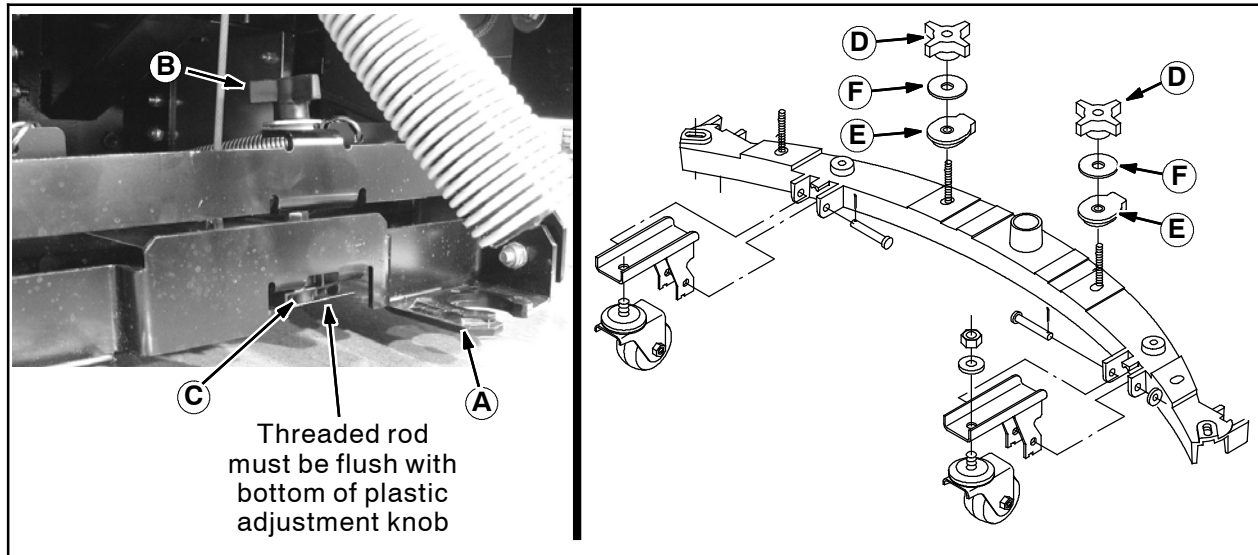

FIG. 1
1. Turn squeegee pivot adjustment knob (B) until the bottom of the threaded rod is flush with bottom of the plastic adjustment block (C). (Fig. 1)
2. Turn the key on for 3-4 seconds to raise the rear squeegee mount bracket (A) enough to allow the squeegee assembly to slide under it and then turn the key off.
4. Remove the two knobs (D), the two squeegee mounting rings (E), and the two washers (F) from the squeegee assembly. Set the removed items aside. (Fig. 1)
5. Slide the new rear squeegee assembly (1) under squeegee mount bracket (A).
6. Lift the rear squeegee assembly up onto the squeegee mount bracket and reinstall the two squeegee mounting rings (E), the two washers (F) and the two knobs (D). Hand tighten.
7. Connect the vacuum hose to the rear squeegee assembly. (Fig. 1)